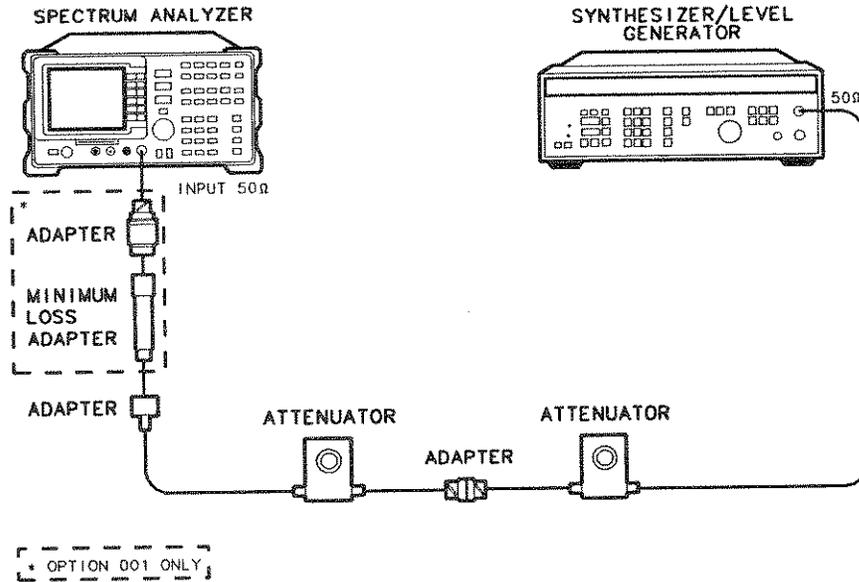

Figure 3-9. Input Attenuator Accuracy Test Setup
1. Connect the equipment as shown in Figure 3-9. Set the HP 355D to 20 dB attenuation and the HP 355C to 0 dB attenuation. *Option 001 only:* Connect the minimum loss adapter to the RF INPUT 75 Ω using adapters, and set the HP 355D to 10 dB attenuation.